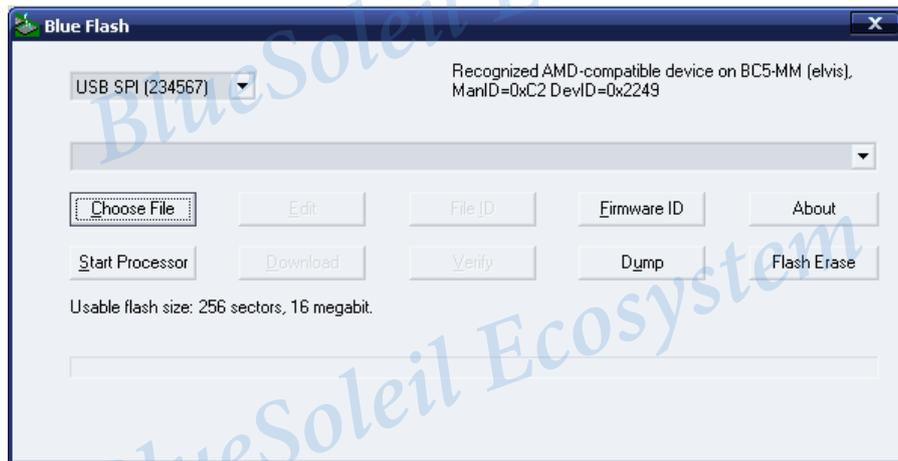

Figure 10 Blue Flash tool
- Click the **Start** (or Windows) button, select **Process** → **CSR BlueSuite** → **Blue Flash** to launch the firmware burning tool. Select **USB SPI** in the drop box. See Figure 10 below. If there is no USB SPI option in the drop box, it represents that PC does not have the USB→SPI driver. Please install the USB→SPI driver before upgrading firmware. Refer to the chapter 3.1 to check if the necessary drivers are successfully installed in PC.